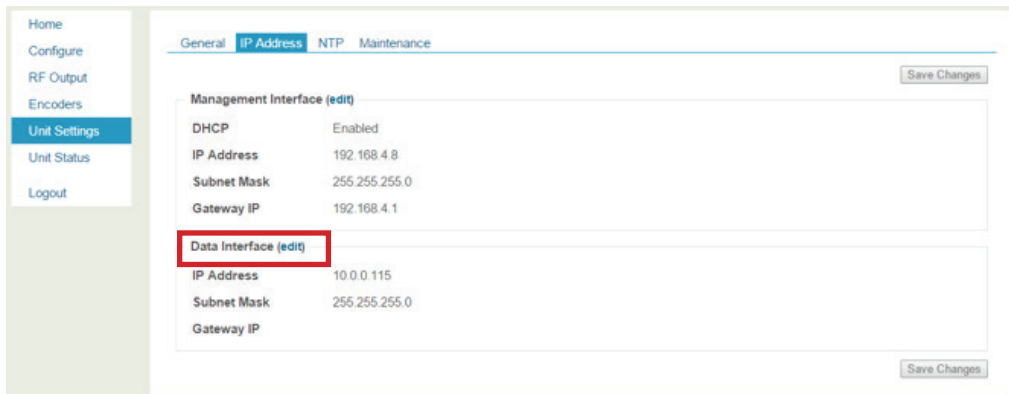

Figure 7: Unit Settings Page, IP Address Tab
Step 5: Click "edit" next to Data Interface (outlined in red in Figure 7)